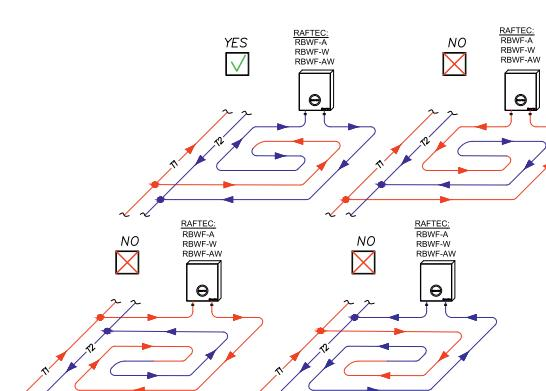

Fig.4
- do not install near other heat sources, for example next to a heater, appliances (see fig. 4)